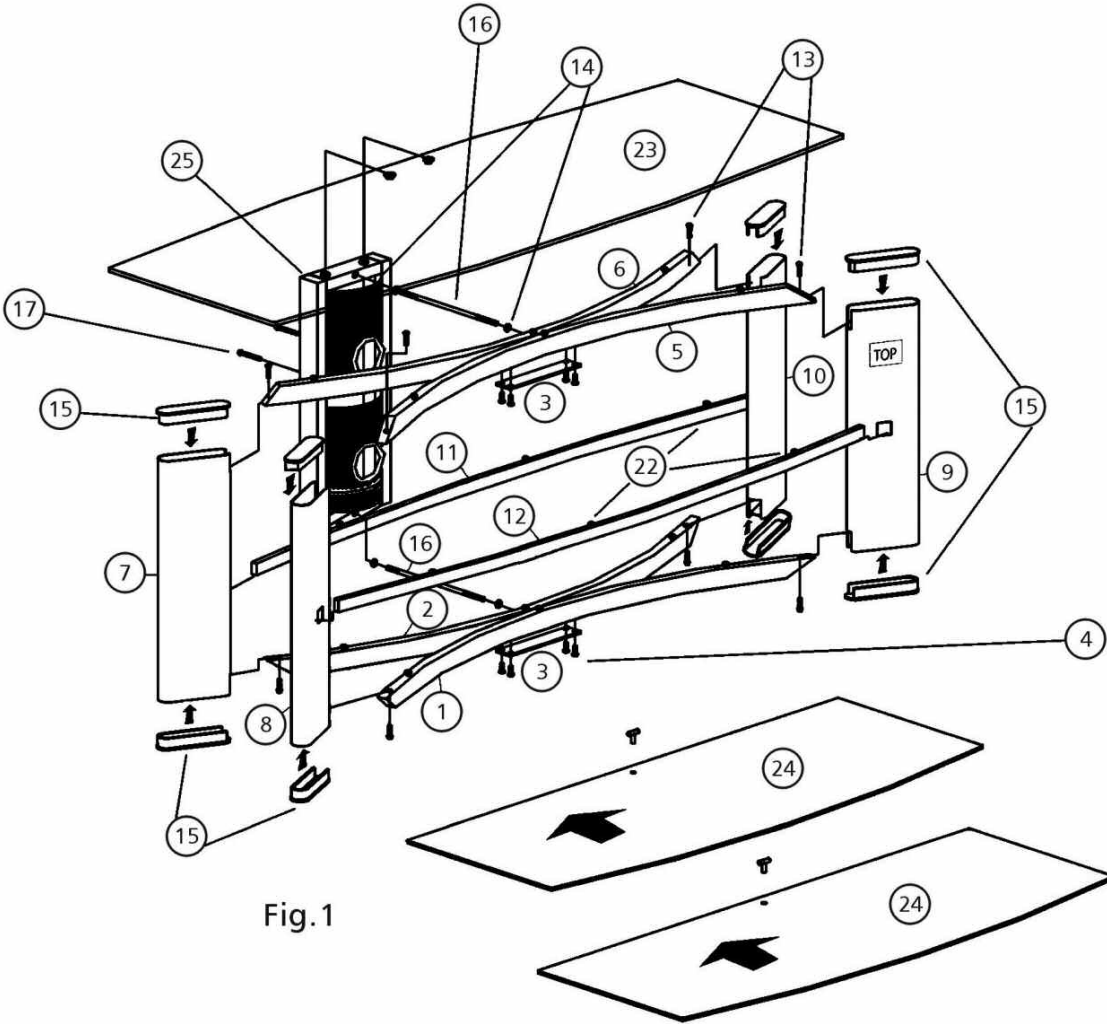

Fig. 1
12. The REAR of the TOP and BOTTOM frame bars have a hole drilled in the center of the bars where the FRONT and REAR frame bars meet. From the REAR, PLACE a washer (14) over the hole in the TOP frame bars. Use the OPEN END WRENCH to SCREW the shorter threaded end of the LONG tie bar (16) through the REAR of the TOP frame bar and into the FRONT TOP frame bar until tight. REPEAT this tie bar (16) assembly for the BOTTOM frame bars.
13. PLACE a washer (14) over the exposed ends of the LONG tie bars (16). POSITION the open side of the CMS® (Cable Management System) frame (25) facing the REAR with the two screw holes in the TOP of the CMS® frame facing up. SLIDE the CMS® frame over the ends of the LONG tie bars (16) so that it is resting against the REAR center shelf support bar (11). ATTACH the rear of the CMS® frame (25) to the support bar with 1/4" x 60 mm screws. DO NOT FULLY TIGHTEN AT THIS POINT.
14. SECURE the LONG tie bars (16) to the rear of the of the CMS® frame with 1/4" x 16 mm OPEN ended screws (18).
15. GO BACK and FULLY TIGHTEN the CMS® frame to the table frame and the flat plate (3) to the two top frame bars.
17. PLACE glass pads (22) onto the left, center and right tops of the BOTTOM, TOP and CENTER shelf support bars as shown in Fig. 1.
18. PLACE the TOP (largest) shelf (23) onto the TOP bars with the two silver discs facing the rear and into the holes in the top of the CMS® frame (25). SECURE the silver discs to the CMS® frame with the 1/4" x 25 mm screws (19).
19. CAREFULLY PLACE the smaller shelves (24) onto the BOTTOM and CENTER shelf Support frames with the holes in the shelves facing towards the REAR. INSERT the shelves through the slots in the CMS® frame. LOCK the shelves in place with the T-shaped pins (20) through the holes in the rear of the shelves.